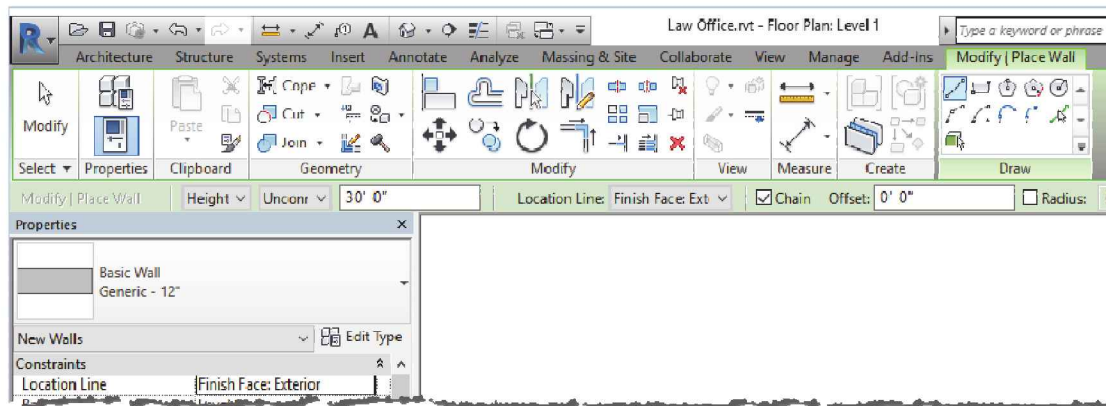

FIGURE 5-2.1 Ribbon and Option Bar – Wall command active
2. Make the following changes to the wall options within the *Ribbon* and *Options Bar* (Figure 5-2.1):